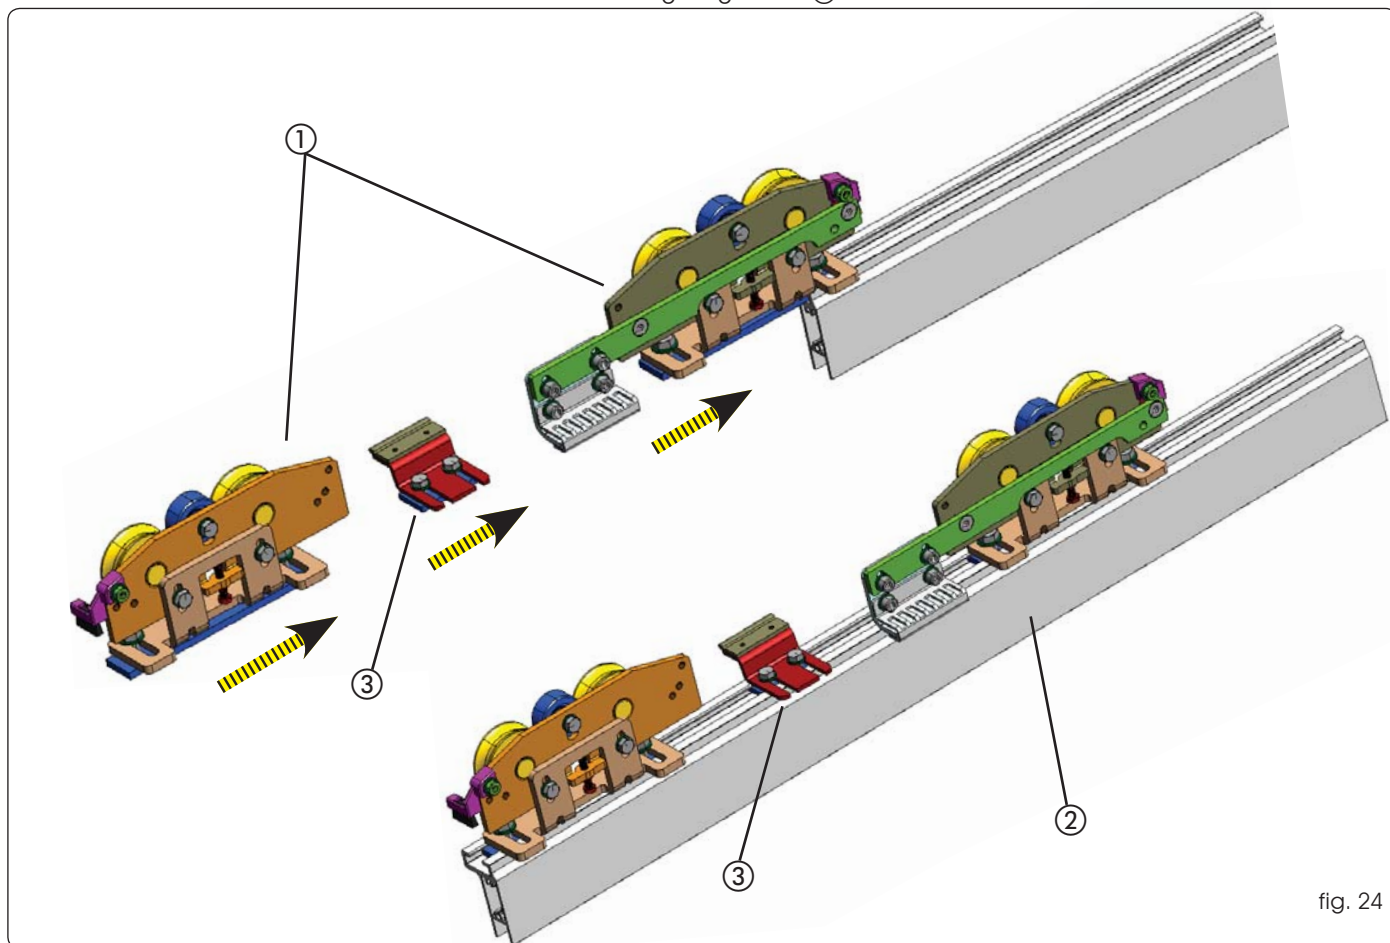

fig. 24
Assemble the carriages on the leaf support fig.24 Ref. ①②.
Fit the bracket to secure the steel cable of the external carriages fig.24 Ref.③